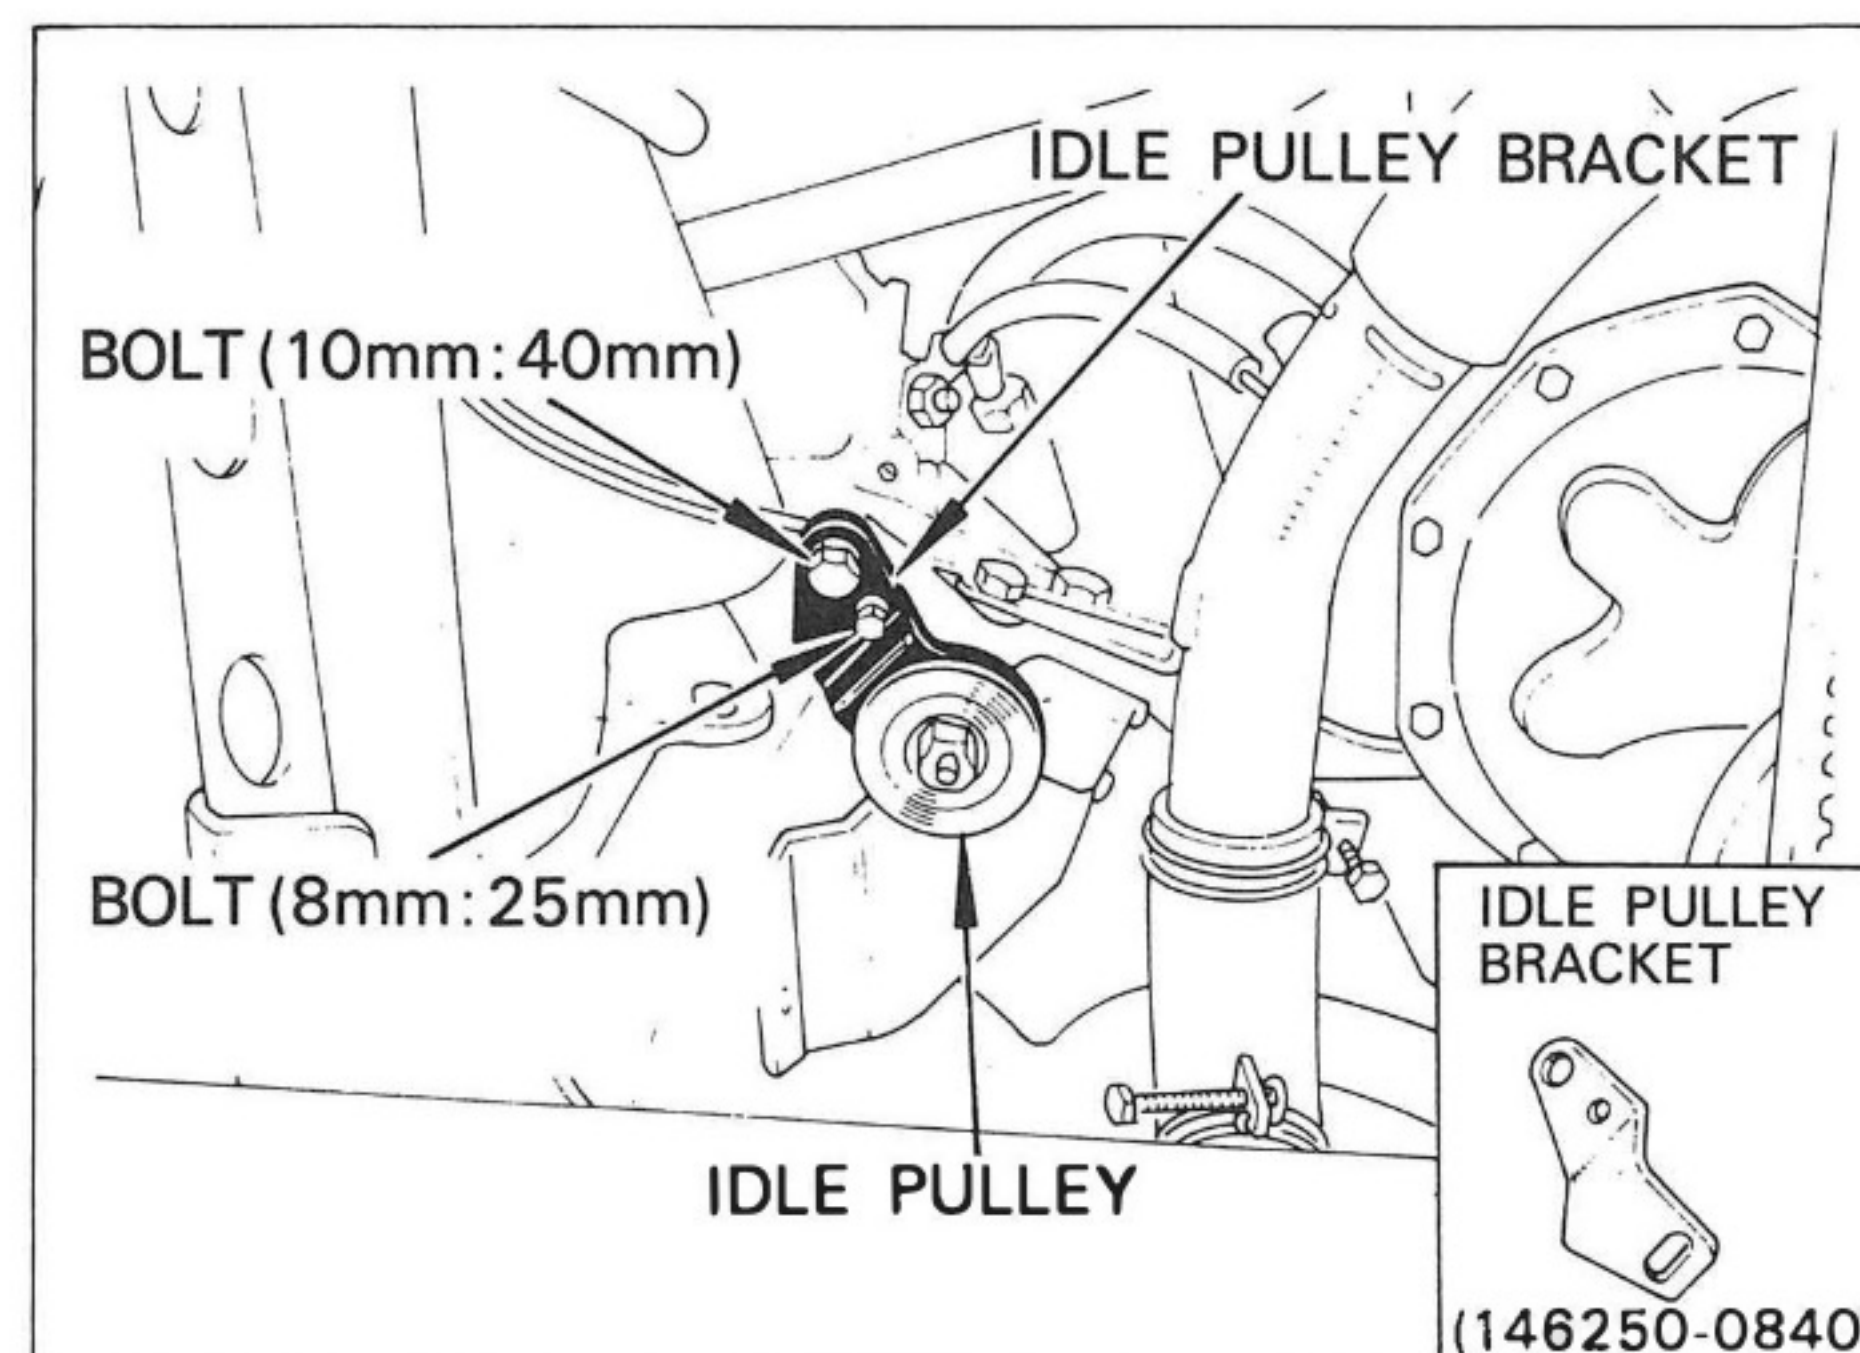

Fig. 22
B) Install the idle pulley to the compressor bracket as shown in Fig. 22.